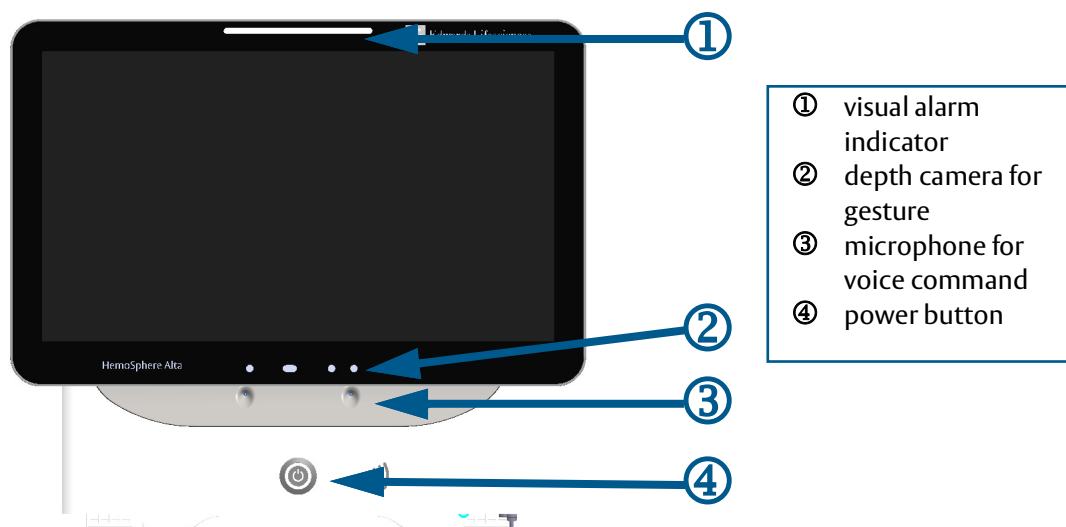

Figure 3-1 HemoSphere Alta™ Advanced Monitor front view
To power the monitor off, touch the power button. See ④ in Figure 3-1 on page 71. The following options will be displayed: